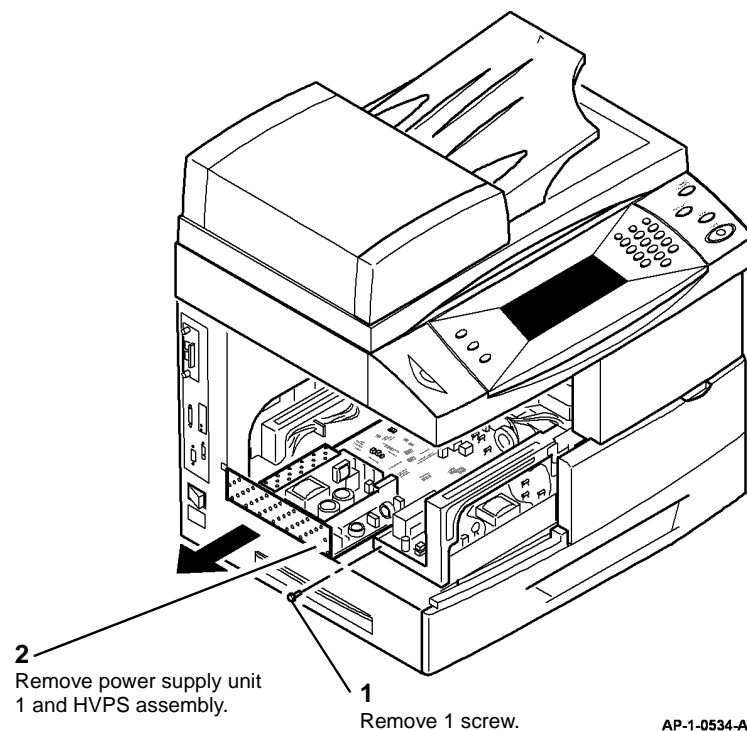

Figure 1 Assembly removal
5. Remove power supply unit 1 and HVPS assembly, Figure 1.